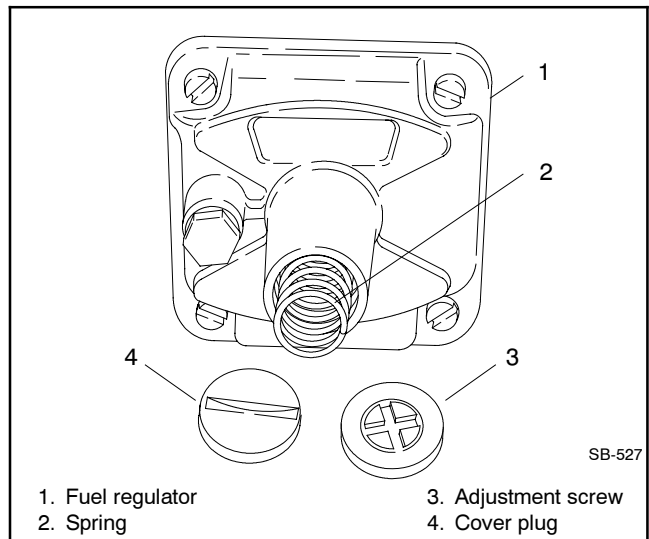

Figure 9-35 Fuel Regulator, Typical
- b. Remove the cover plug and adjustment screw from the fuel regulator. See Figure 9-35.